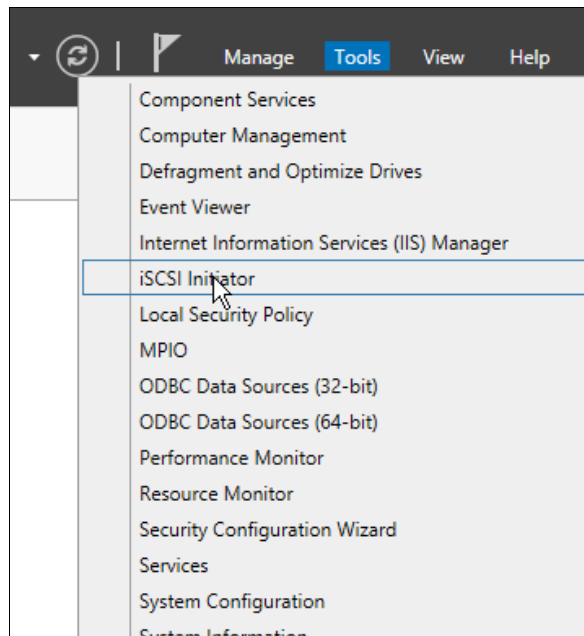

Figure 4-4 Starting the iSCSI Initiator
1. To start the iSCSI Initiator, open **Server Manager** and go to **Tools** → **iSCSI Initiator**, as shown in Figure 4-4.